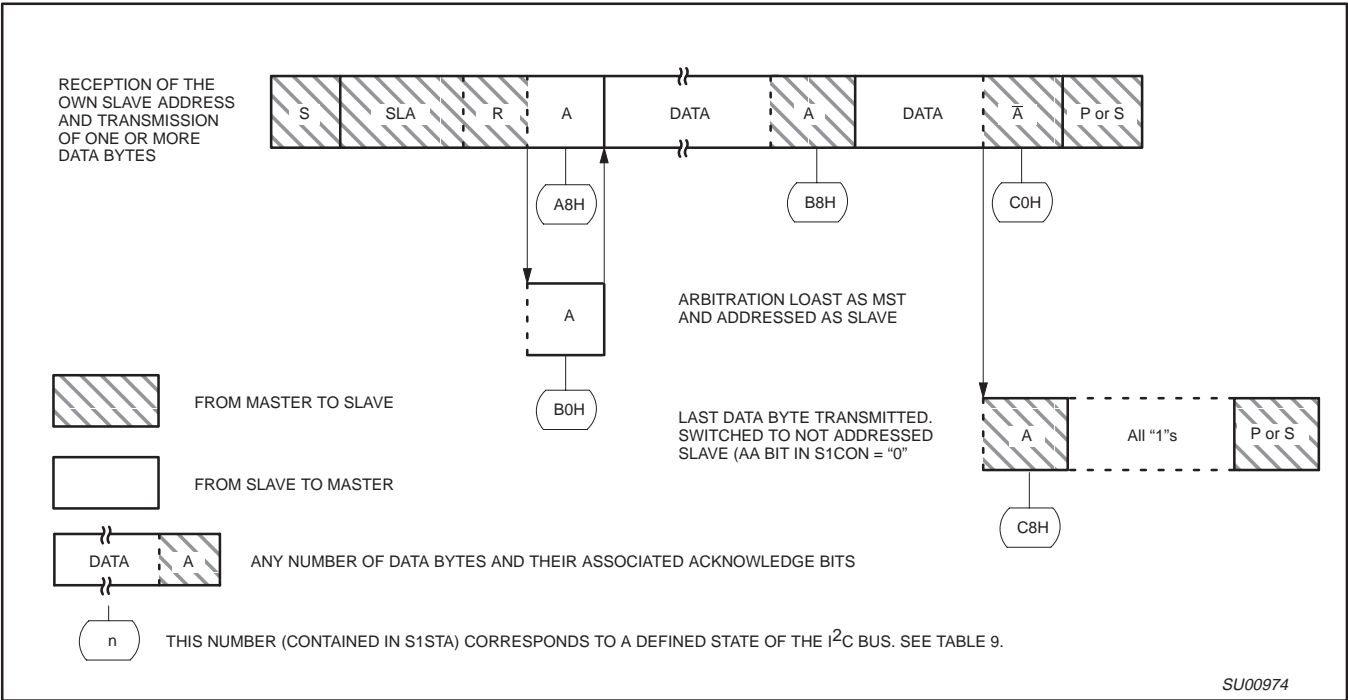

Figure 42. Format and States of the Slave Transmitter Mode
When SIO1 is in the addressed slave transmitter mode, state C8H will be entered after the last serial is transmitted (see Figure 42). When SI is cleared, SIO1 leaves state C8H, enters the not addressed slave receiver mode, and the SDA line remains at a high level. In state C8H, the AA flag can be set again for future address recognition.
Slave Transmitter Mode: In the slave transmitter mode, a number of data bytes are transmitted to a master receiver (see Figure 42). Data transfer is initialized as in the slave receiver mode. When S1ADR and S1CON have been initialized, SIO1 waits until it is addressed by its own slave address followed by the data direction bit which must be "1" (R) for SIO1 to operate in the slave transmitter mode. After its own slave address and the R bit have been received, the serial interrupt flag (SI) is set and a valid status code can be read from S1STA. This status code is used to vector to an interrupt service routine, and the appropriate action to be taken for each of these status codes is detailed in Table 9. The slave transmitter mode may also be entered if arbitration is lost while SIO1 is in the master mode (see state B0H).